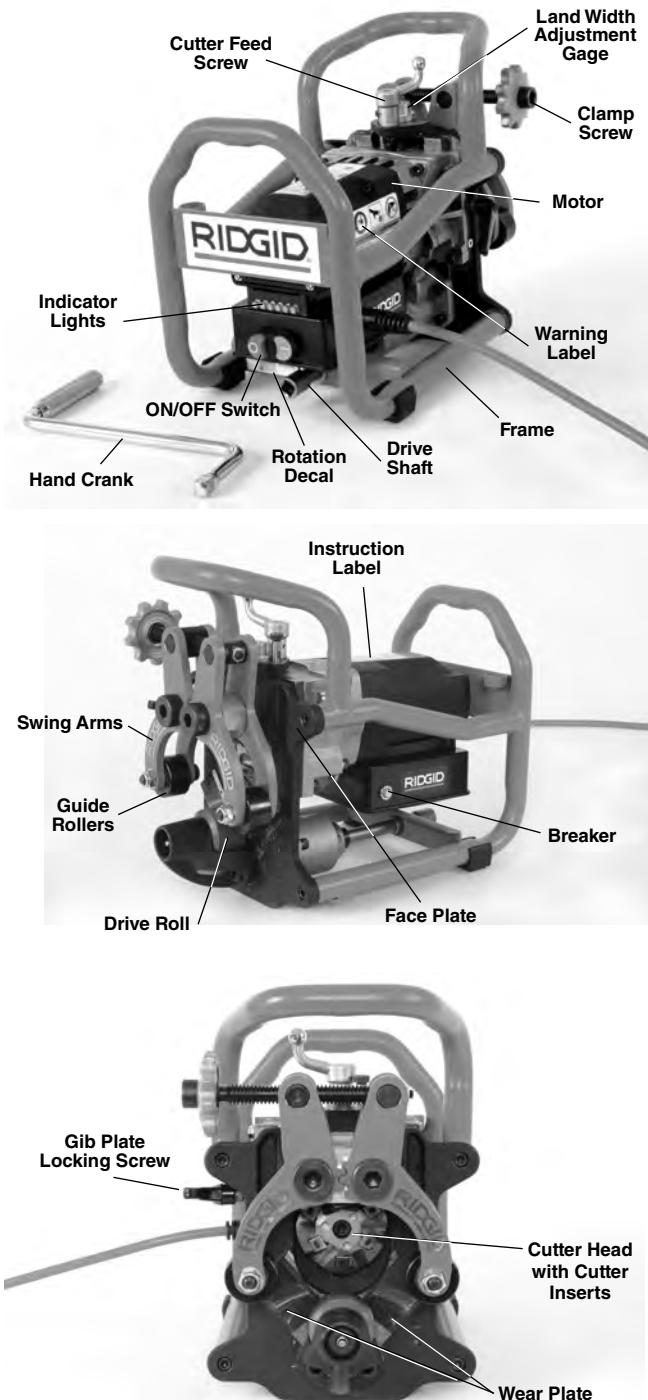

Figure 1 – Model B-500 Beveller
- Presence and readability of the warning and instruction labels (See *Figure 1*).